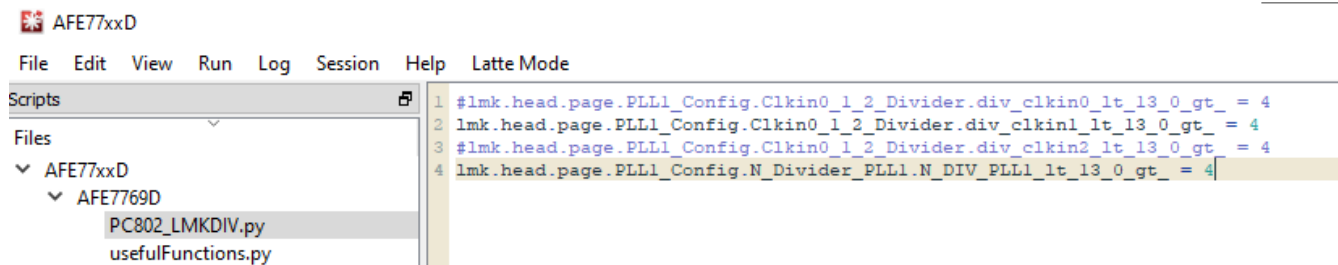

Figure 3-14. RNS802 LMK Script
- Open the PC802_LMKDIV.py script on the tree view on the left, as shown in Figure 3-14.